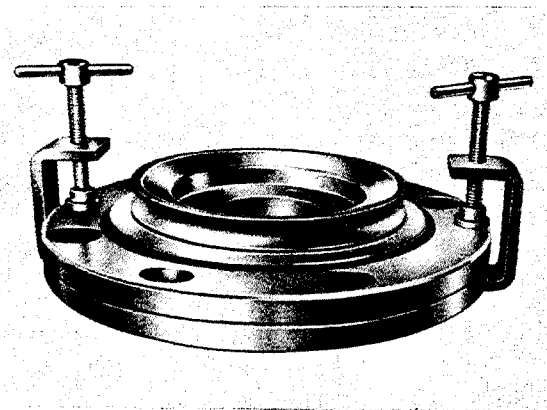

Fig. M 18/7
- Slip the two clamps 187 589 04 31 over damper rings of vibration damper and tighten evenly (see Fig. M 18/7).